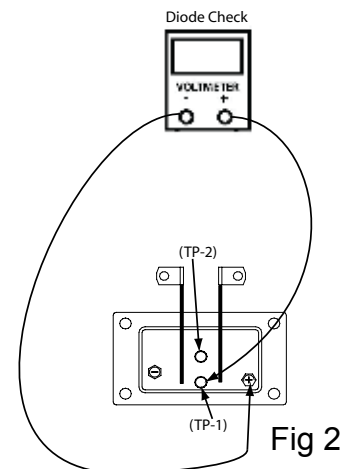

Fig 2
Record measurement. See Fig 2.
Step 2: Place bearing spacer into front housing. See Fig. 2